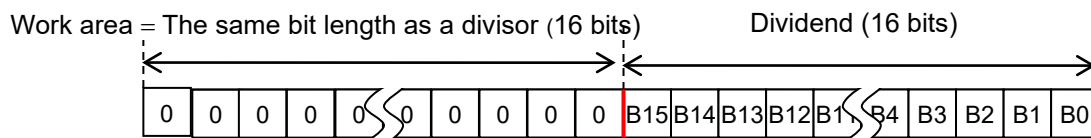

Figure 3.2 Pre-preparation of Calculation
- (1) In order to execute division by repeating subtraction, the work area of the same bit length as a divisor is prepared at higher bits of a dividend and cleared by zero. (Refer to Figure 3.2)